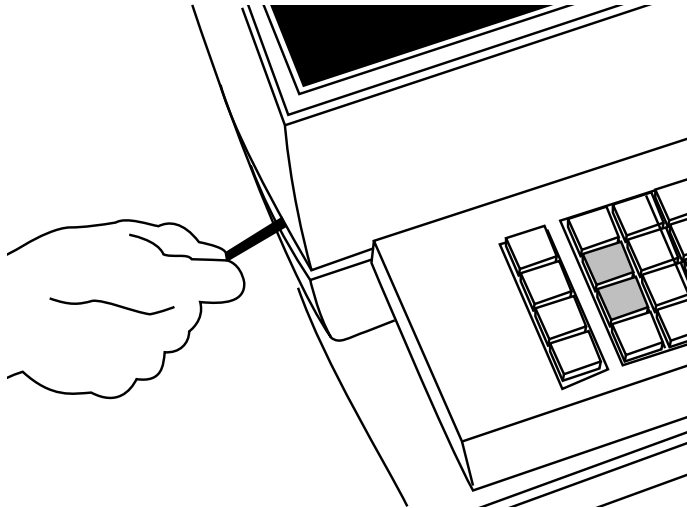

Figure 5-6. Releasing the Front Cover Latches
3. Release the front cover latches. See **Figure 5-6**.